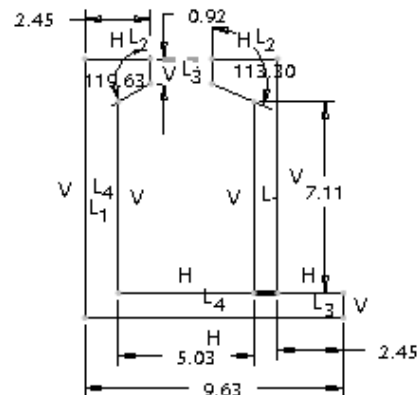

Figure 2-31 Sketch after dimensioning
- Dimension the required entities and then modify the dimensions of the sketch, refer to Figures 2-31 and 2-32.
8. Select the vertex that is joining lines C and D and the vertex that is joining lines J and K. Both the vertices are aligned horizontally, as shown in Figure 2-31.
Figure 2-31 shows the sketch after applying dimensions. If your sketch does not have all dimensions shown in this figure, apply them by using the **Normal** button.